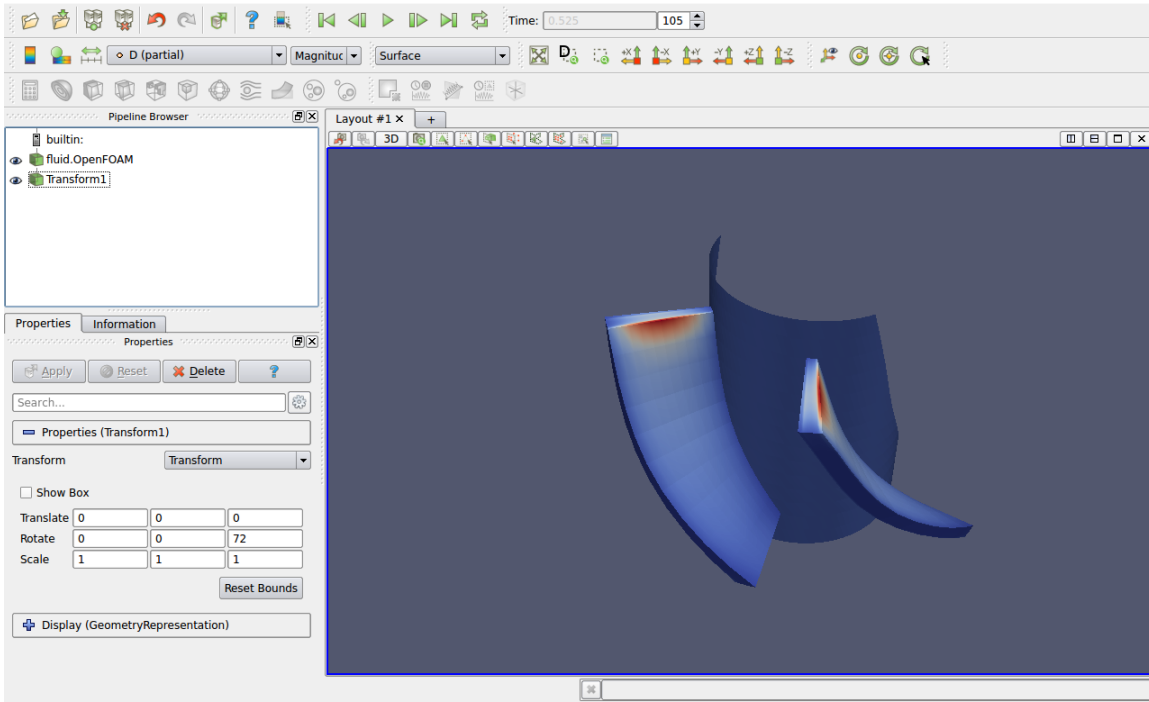

Figure 4: Initial geometry and transform-filter with 72 degree rotation
Load both the fluid and solid domain into ParaView with the command `paraFoam` while in the `fluid` directory. Since only a fifth of the domain is modeled, a method for visualizing the entire domain is needed. For this the ParaView filter, `transform` is used. Use `transform` filter four times on the original object, and rotate around the z-axis with rotation angle 72, 144, -72, -144 degrees to show the entire domain (see figure 4). To clearly see the blades, untick the box `internalMesh` and tick the box `RUHUB` instead, figure (5). In order to not have to redo this procedure every time all blades are to be visualized, the geometry with all transformations can be saved as a state. This is done by `File` → `Save State`. Then use `$ paraview --state=*stateName*.pvsm` to load the state next time the case is to be visualized in paraview.